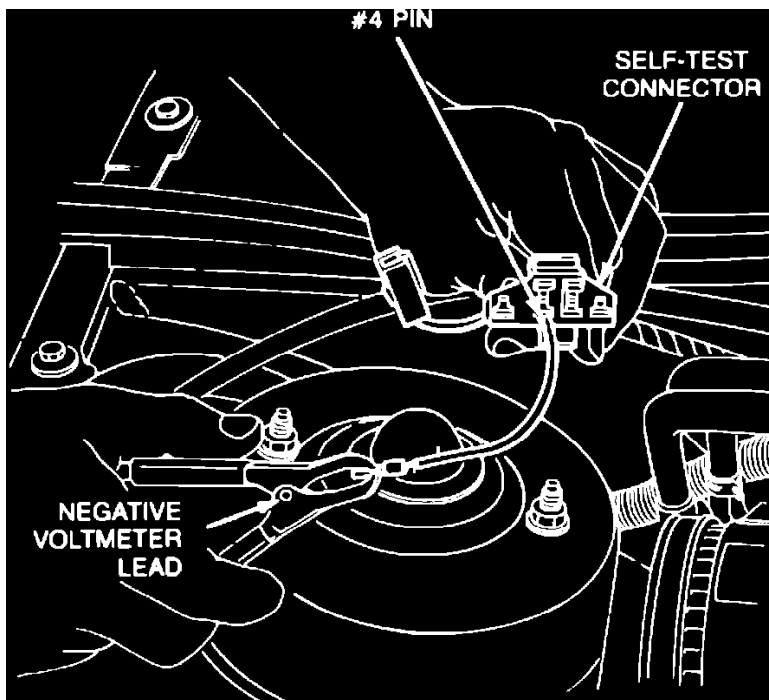

Fig. 19 Clamping negative lead from voltmeter on to other end of jumper wire
2. Clamp negative lead from the voltmeter on to the other end of jumper wire, Fig. 19.